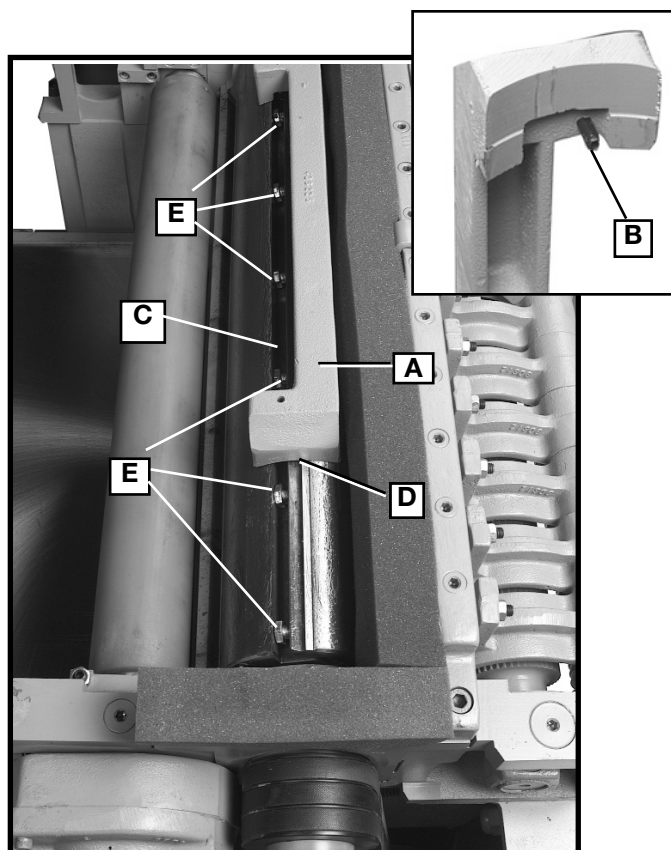

Fig. 20
C. Check all four knives for proper setting using the knife guage (A), as shown in Fig. 20. When the guage (A) is placed on the cutterhead and the bottom of the two roll pins, one of which is shown at (B), are against the edge of the slot (C) opposite the knife, the knife should just contact the bottom of the guage (D).
D. If any of the knives require an adjustment, slightly loosen the knife locking bar of each of the four knives by turning the knife locking screws (E) Fig. 20, into the locking bar just enough to relieve stress in the cutterhead but not disturb the setting of the four knives.
E. To adjust the knife that must be reset, loosen all of that knife's locking screws (E) Fig. 20, by turning them into the locking bar. As the knife locking bar becomes loose, lifter springs under the knife will raise the knife until it contacts the bottom of the guage (D). Then snug up the knife locking bar by lightly backing out the locking screws (E) against the knife slot. **IMPORTANT: AT THIS TIME, ONLY TIGHTEN THE KNIFE INTO THE SLOT ENOUGH TO HOLD IT IN POSITION.**
G. After all four knives are set with the screws just snug, back out and tighten the locking screws, five of which are shown at (E) Fig. 20, against the slot. Start with the end screws first and proceed on alternate sides toward the center screws until the knife is securely held in the cutterhead. Tighten the remaining three knives in the same manner.
B. To remove each knife, loosen the knife locking bar, by turning the locking screws, five of which are shown at (E) Fig. 20, into the knife locking bar and remove the locking bar, knife and springs located under the knife.
F. Insert springs, knives and knife locking bars into all four slots in the cutterhead. Push knives down as far as possible and back out locking screws, five of which are shown at (E) Fig. 20, just enough to hold all four knives in the cutterhead.